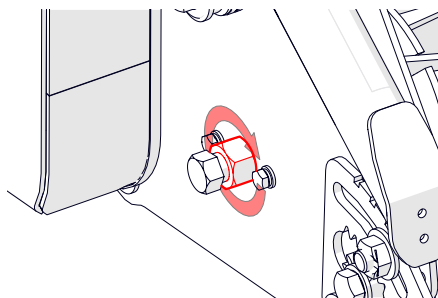

Fig. 8I - Secure the locknut
9. Tighten the retaining bolt [19 mm spanner] (Fig. 8H) and then the locknut [24 mm spanner] (Fig. 8I).